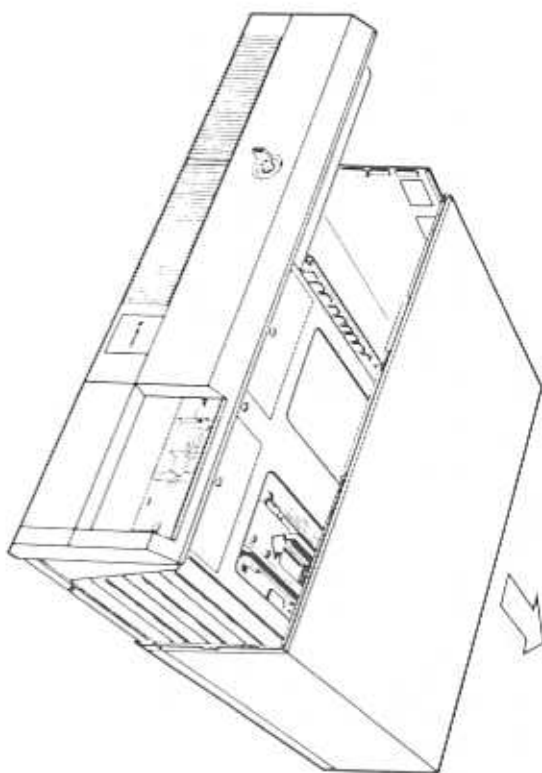

Figure 3-4. Removing the System Unit Cover
3. Holding the system unit cover by the sides, gently slide the cover back, and then lift the cover up and away from the front of the system unit (Figure 3-4).